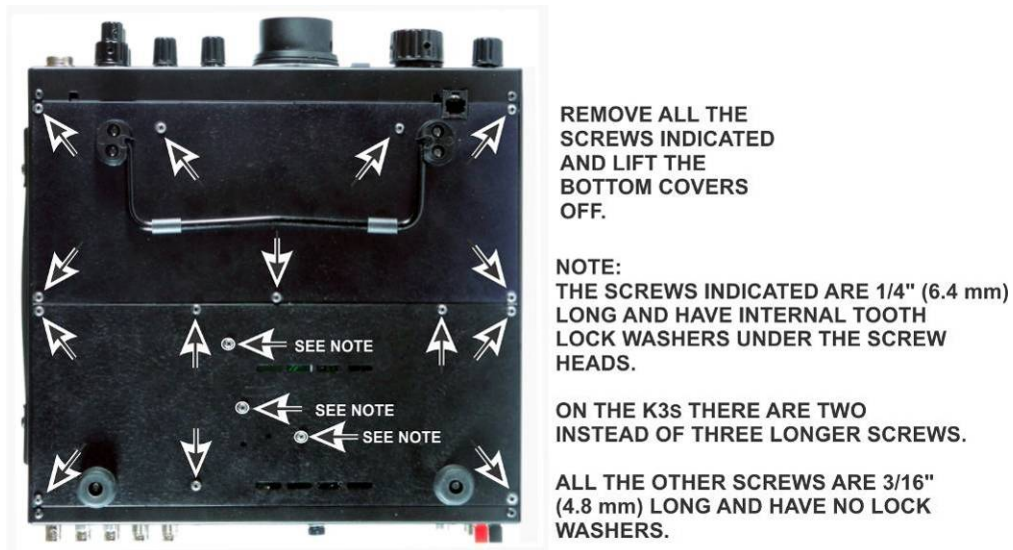

Figure 11. Removing K3s/ K3 Bottom Cover.
- ☐ Remove both bottom covers from the K3Sor K3 by removing the screws shown in Figure 11.
- ☐ Replace both bottom covers using the 4-40 black pan head screws you removed earlier. Note that three locations take the 4-40 1/4" (6.4 mm) black pan head screws with lock washers as shown in Figure 11 while the remainder are 4-40 3/16" (4.8 mm) screws. Be sure these are in the correct locations!
Failure to replace the 1/4" (6.4 mm) bottom screws with their lock washers in the locations shown in Figure 11 may destroy power transistors in your K3s/K3.